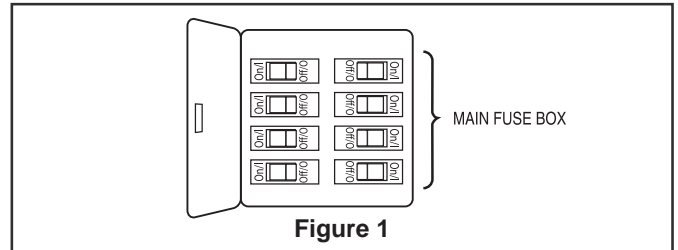

Figure 1
1. Alternating positions, remove three motor coupling screws from motor assembly and retain the screws for Step 3. (Figure 1)
To avoid possible electrical shock, be sure electricity is turned off at the main fuse box before hanging. (Figure 1)